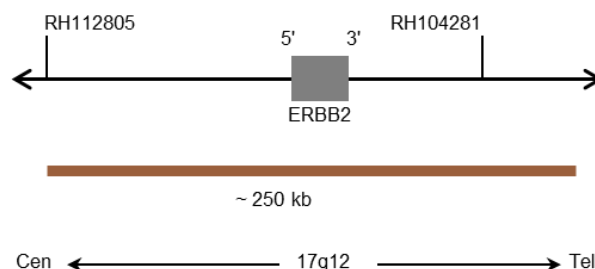

Fig. 1: SPEC ERBB2 Probe map (not to scale)
- Digoxigenin-labeled polynucleotides (~1.8 ng/μl), which target sequences mapping in 17q12* (chr17:37,725,661-37,973,541) harboring the ERBB2 gene region (see Fig. 1).